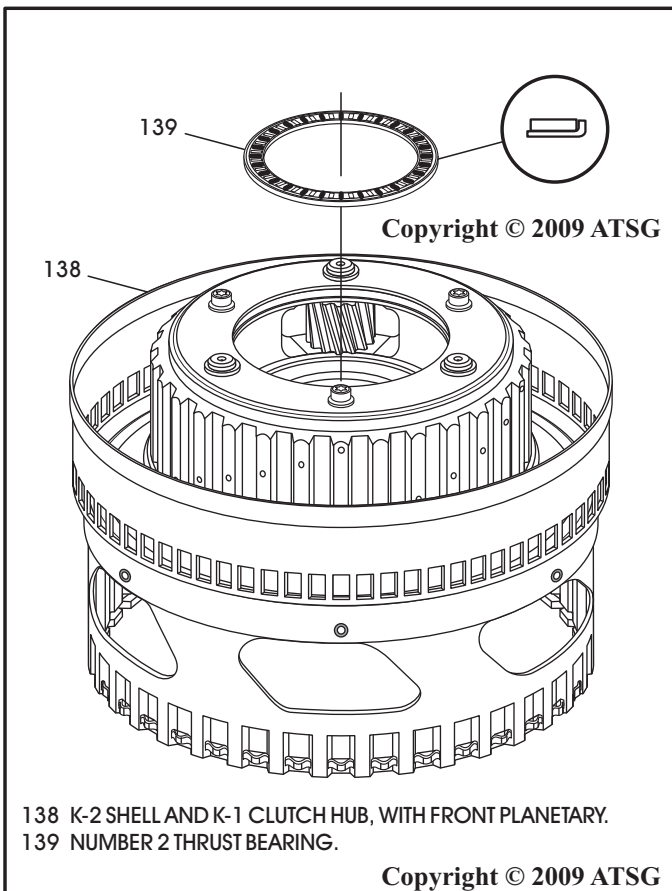

Figure 115
32. Install the number 2 thrust bearing, as shown in Figure 115, and retain with a small amount of Trans-Jel®.